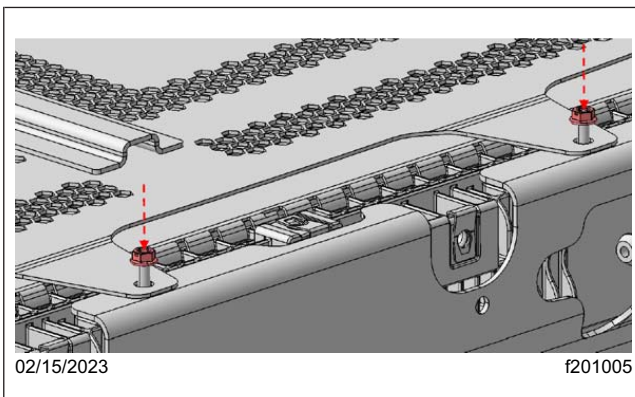

Fig. 2, M6 Flange Nut Installation
- 10.1 Tighten the M6 hex flange nuts 8 ± 1 lbf·ft (10 ± 1 N·m). See **Fig. 2**.